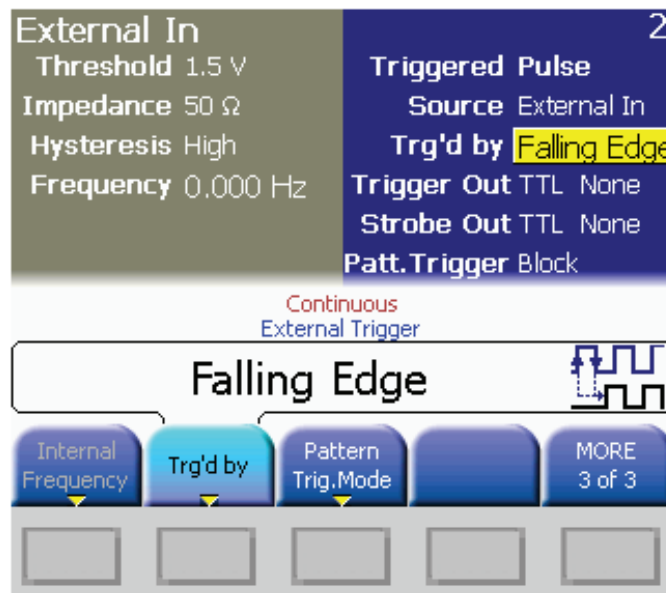

Figure 22: Defining the trigger conditions for the looped test data.
- Leave the rest of the parameters to their standard settings as shown in Figure 22.